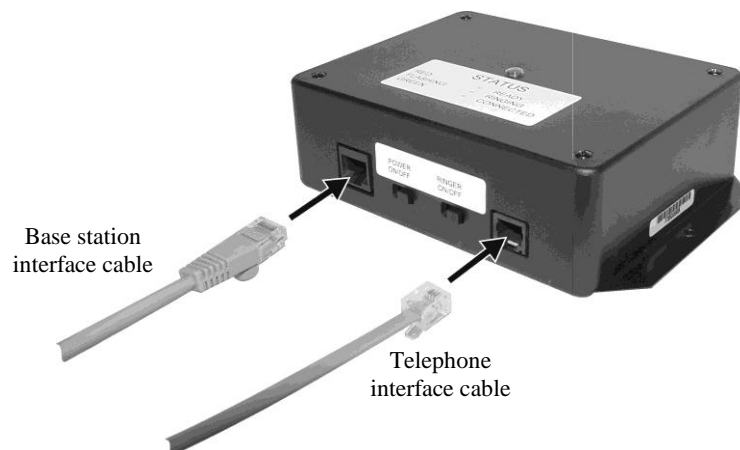

Figure 4. TI6000 cable connections
- Plug one end of the telephone interface cable into the receptacle on the TI6000, as shown in Figure 4.
- Plug the RJ45 connector at the other end of the cable into the TI6000 as shown in Figure 4.
- Plug the RJ45 connector at the other end of the base station interface cable into the TI6000 as shown in Figure 4.